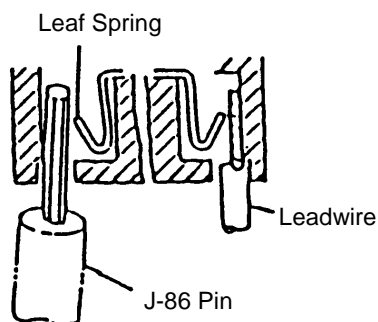

Fig. 8
The two leadwires from the Motor ③⑩ ③⑤ (one red, one black) can be disconnected from the forward/reverse control section of the Switch by inserting a J-86 Pin (Special Repair Tool, Code No.970-828) into the holes provided beside each of the leadwires, as illustrated in Fig. 8, and bending the switch leaf springs as necessary so that the leadwires can be smoothly withdrawn.